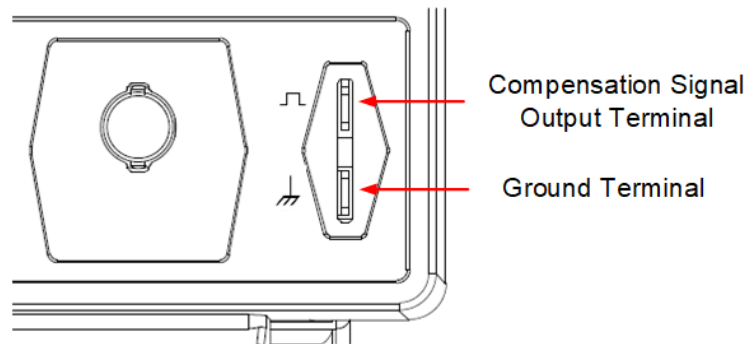

Figure 5.4 Using the Compensation Signal
2. Connect the ground alligator clip of the probe to the "Ground Terminal" as shown in *Figure 5.4*.
3. Use the probe to connect the input terminal of CH1 and the "Compensation Signal Output Terminal" of the probe, as shown in *Figure 5.4*.